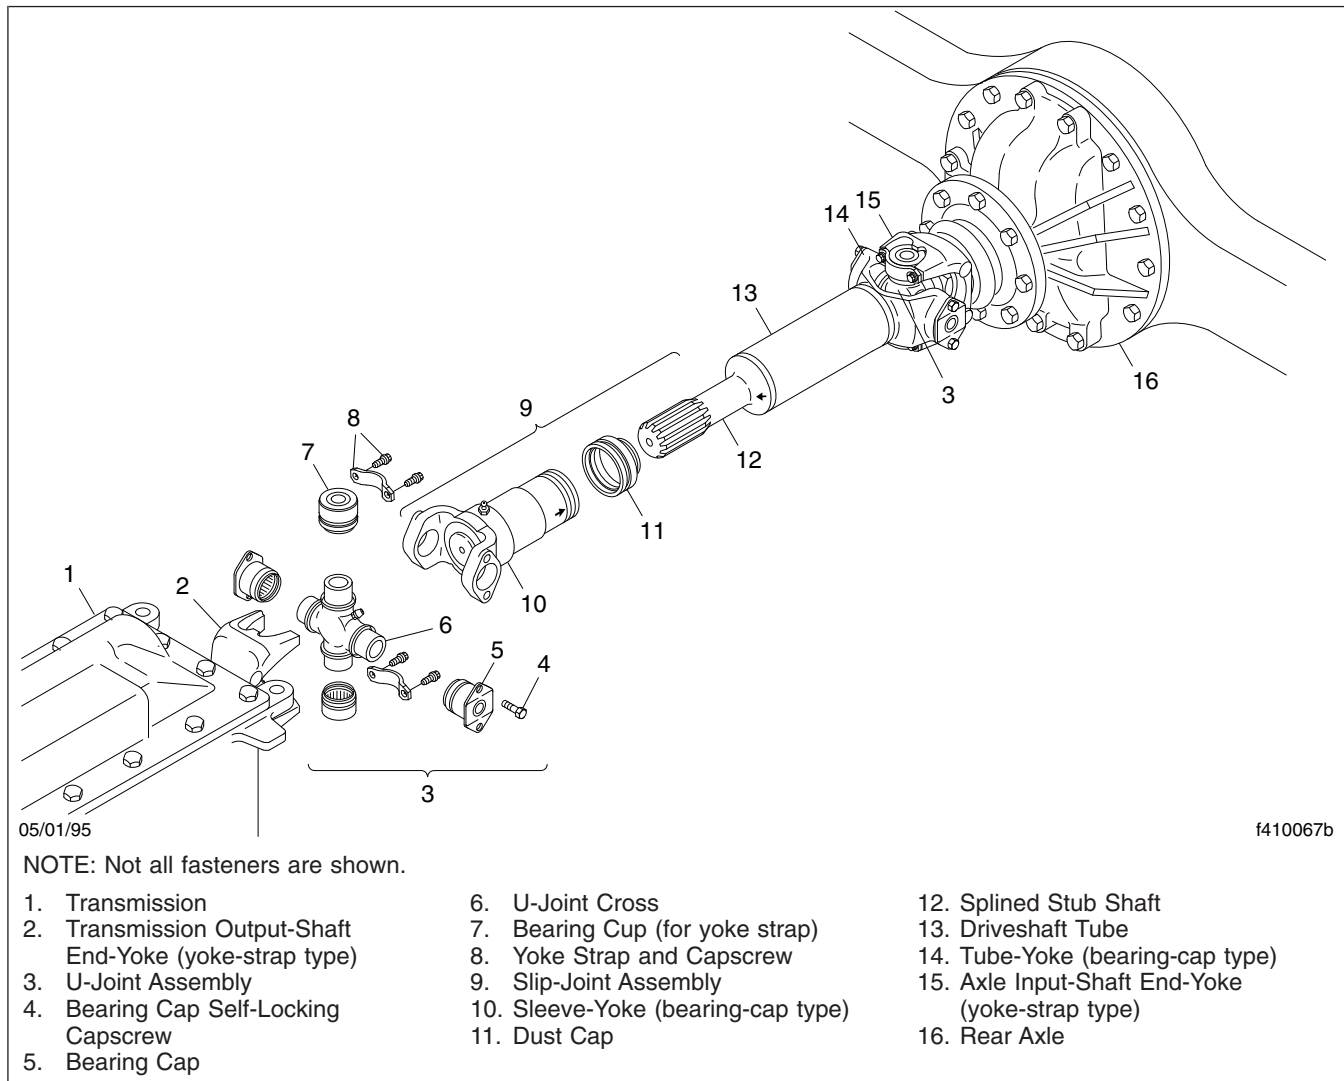

Fig. 3, Components of a Basic Driveline
For driveline universal joints with yoke straps, tighten yoke-strap capscrews 125 lbf-ft (169 N·m). See Fig. 3.
3. Check the driveline yokes for cracks, and check end-yokes for looseness. See Fig. 3.